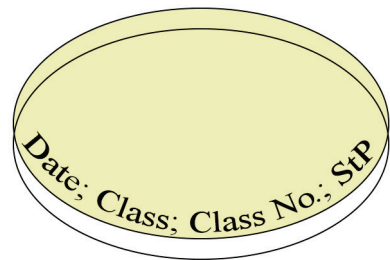

Fig. 2
2. Label the bottom of the agar plate (PCA plate) with “StP” (which stands for “streak plate”), the date of the experiment, your class and class number (Fig. 2).